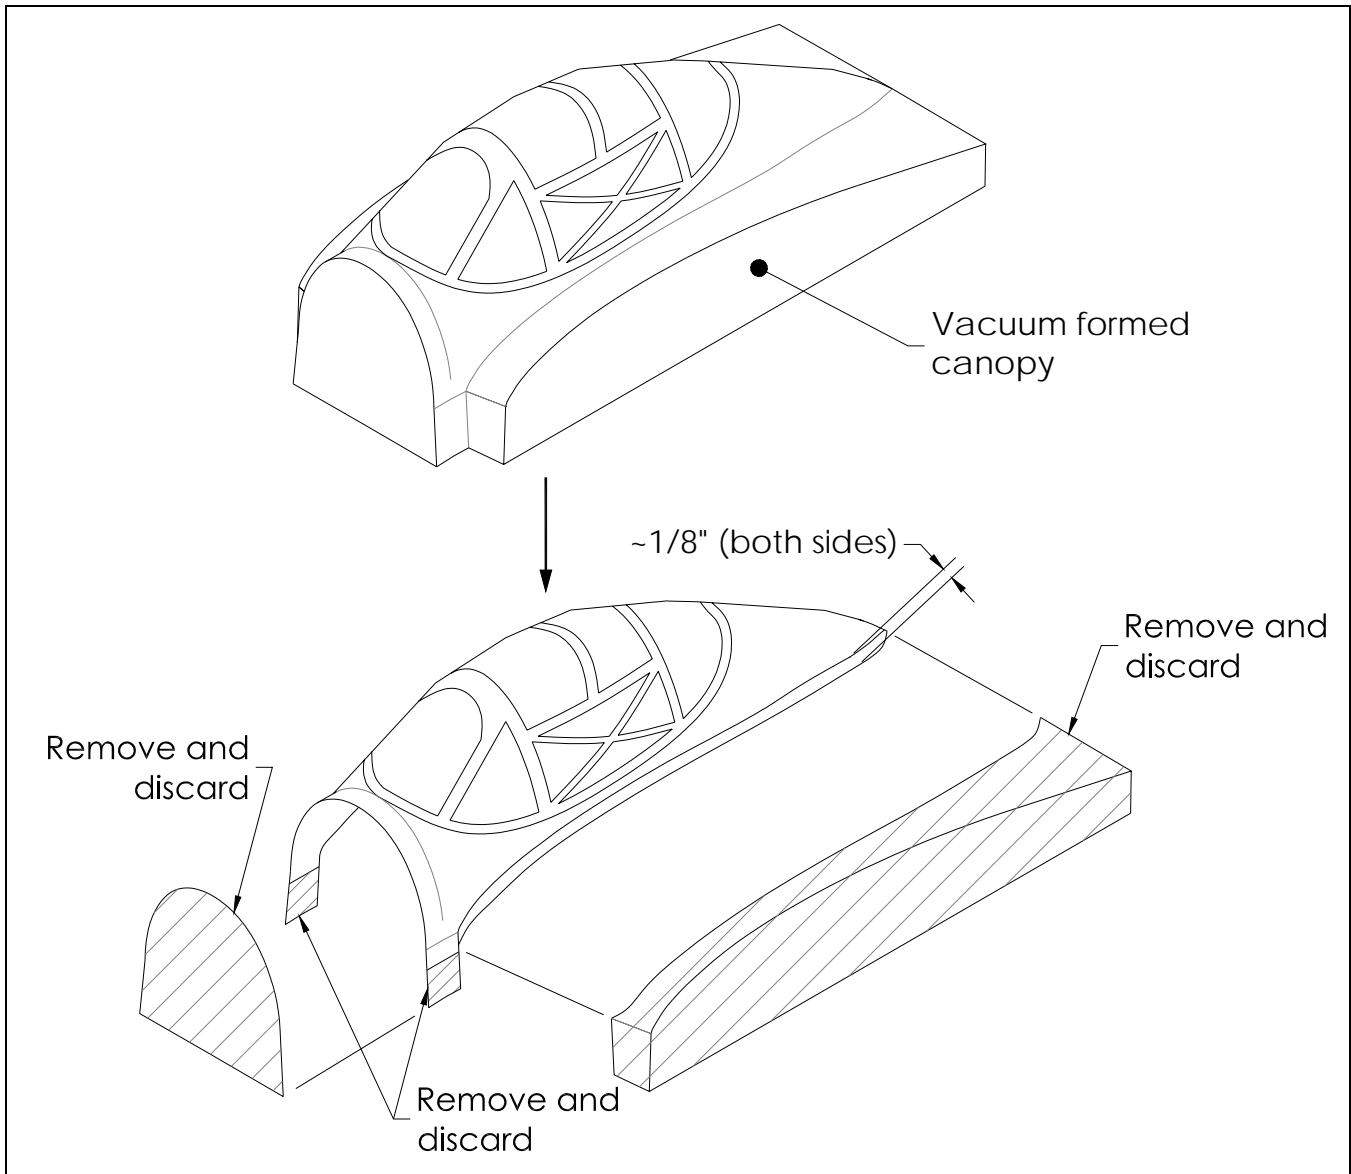

Figure 37
- ❑ Trim the vacuum formed canopy to approximately match what is illustrated in Figure 37.